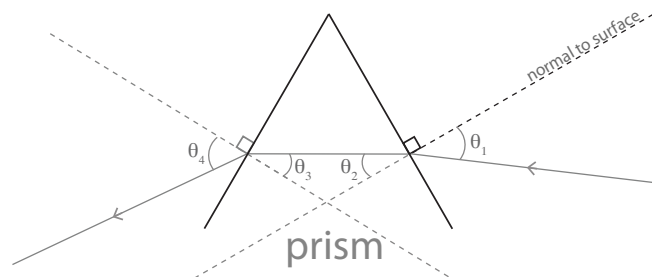

Figure 8: Sample prism diagram.
3. [2 marks] Remove the prism and **use a ruler to carefully connect the dots to form the incoming and outgoing rays, adding arrows to indicate the direction of the rays.** Make sure to extend the ray lines out to the page margins. **Extend the provided 'normal to surface' dashed line all the way through the prism and then, using a protractor and ruler, create the corresponding 'normal to surface' line passing through the point where the exiting ray leaves the prism on the opposite face.** Using a ruler, **complete the path of the ray through the prism by connecting the points where the ray enters and leaves the prism.** **Finally, label the incident and refracted angles on the diagram, using θ_1 & θ_2 when entering the prism and θ_3 & θ_4 when exiting the prism.** The result should look similar to Figure 8.